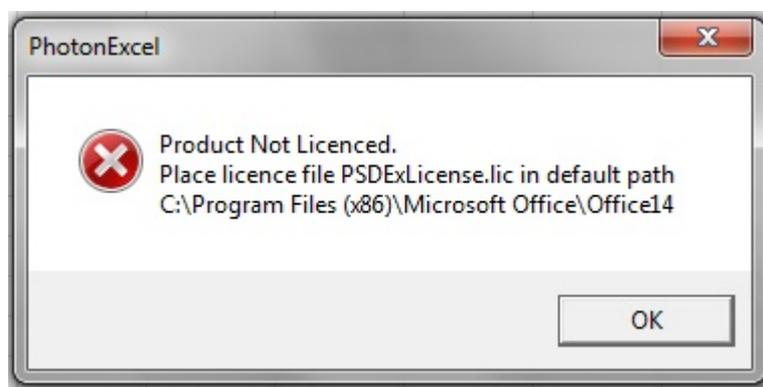

Figure 24 Product not Licensed Warning
4. The Program will give two further warnings about licensing the product and finding the dll, figures 24 & 25.
6. Restart the spreadsheet and if all is well the program will start with just one warning about licensing (Fig 24). The software should now show the Physics Tab with most functions enabled. Those functions that are disabled will require a license file.